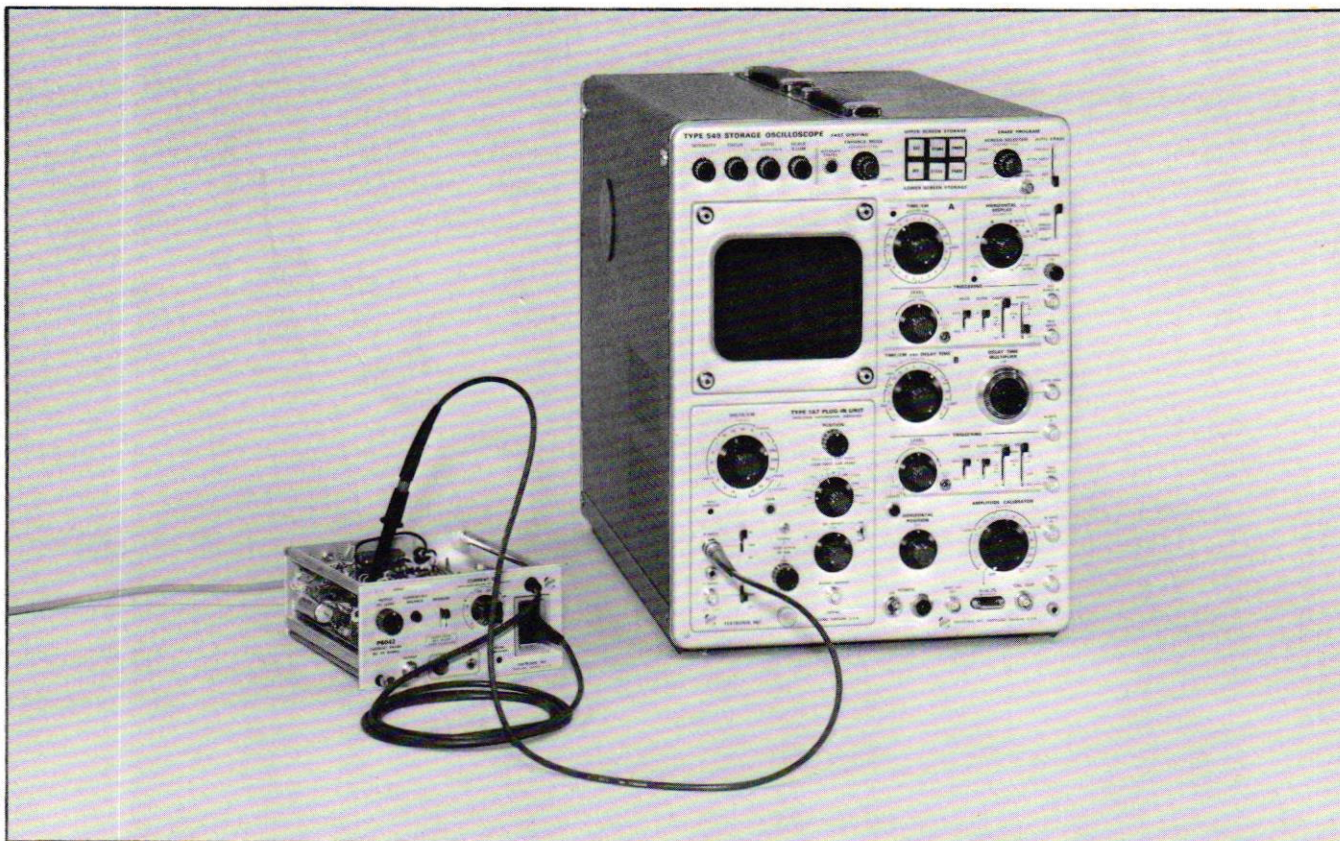

Fig. 6-4. Test setup for step 4.
b. Connect the 1× probe from the + Input to the +16 volt test point. See Fig. 6-4.